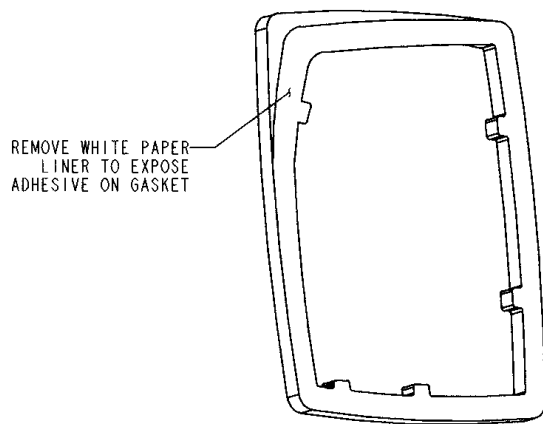
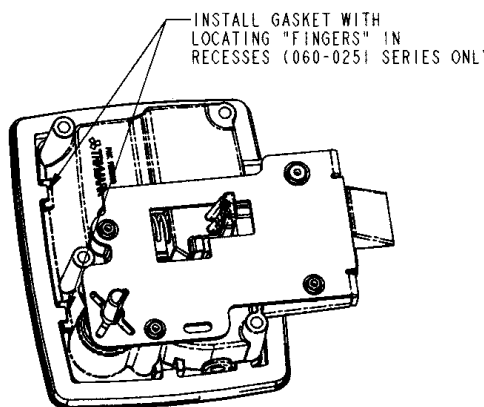

Fig. 3
Fig. 4
#### ASSEMBLY INTO DOOR (Figs. 3 thru 8)
A. Gasket. Remove adhesive liner from gasket (Fig. 3). Apply gasket with adhesive side against flange of outside paddle assembly by pressing gasket around the underside of the flange (Fig. 4). A recess is provided around three edges of the flange and partially on the other edge of the flange for the gasket to fit in. Take care not to let the outside edge of the gasket extend outside the flange.